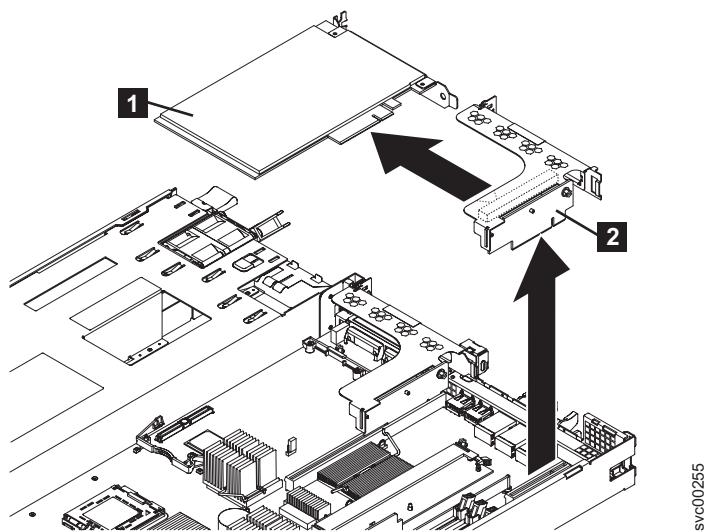

Figure 173. Removing the riser-card assembly from the SAN Volume Controller 2145-8G4
6. Grasp the riser-card assembly (2 in Figure 173) at the rear edge and lift to remove the riser-card assembly.